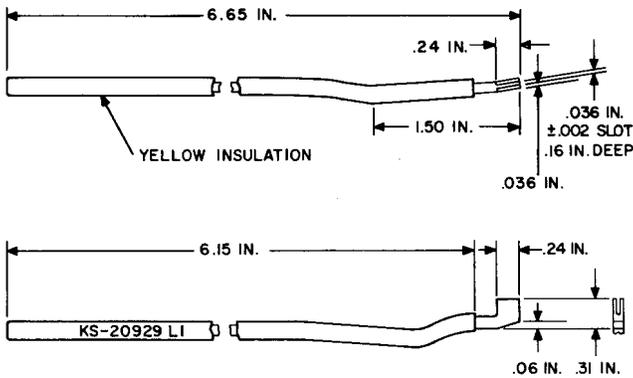

Fig. 15—KS-20929, L1, Adjuster Tool
**2.15 KS-20929, L1:** The KS-20929, L1, adjuster tool (Fig. 15) is used for adjusting heavy springs and the armature backstop on the 221 FAE relays. The adjuster replaces the 766A tool.